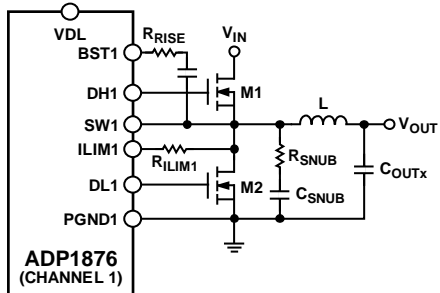

Figure 32. Application Circuit with a Snubber
In any high speed step-down regulator, high frequency noise (generally in the range of 50 MHz to 100 MHz) and voltage overshoot are always present at the gate, the switch node (SW), and the drains of the external MOSFETs. The high frequency noise and overshoot are caused by the parasitic capacitance, C_{GD} , of the external MOSFET as well as the parasitic inductance of the gate trace and the packages of the MOSFETs. When the high current is switched, electromagnetic interference (EMI) is generated, which can affect the operation of the surrounding circuits. To reduce voltage ringing and noise, it is recommended to add an RC snubber between SWx and PGNDx for high current applications, as illustrated in Figure 32.
A resistor, shown as R_{RISE} in Figure 32 at the BST1 pin, helps to reduce overshoot and is generally between $2\ \Omega$ and $4\ \Omega$. Adding a resistor in series, typically between $2\ \Omega$ and $4\ \Omega$, with the gate driver also helps to reduce overshoot. If a gate resistor is added, R_{RISE} is not needed.